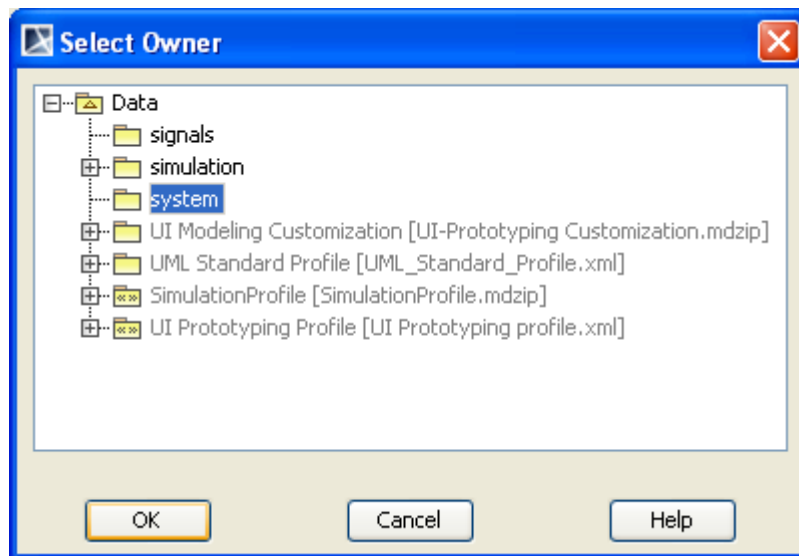

Figure 30 -- Selecting an InstanceSpecification Owner in the Select Owner Dialog
2. The **Select Owner** dialog will open. Select the owner of the created InstanceSpecification and click **OK** (Figure 30).